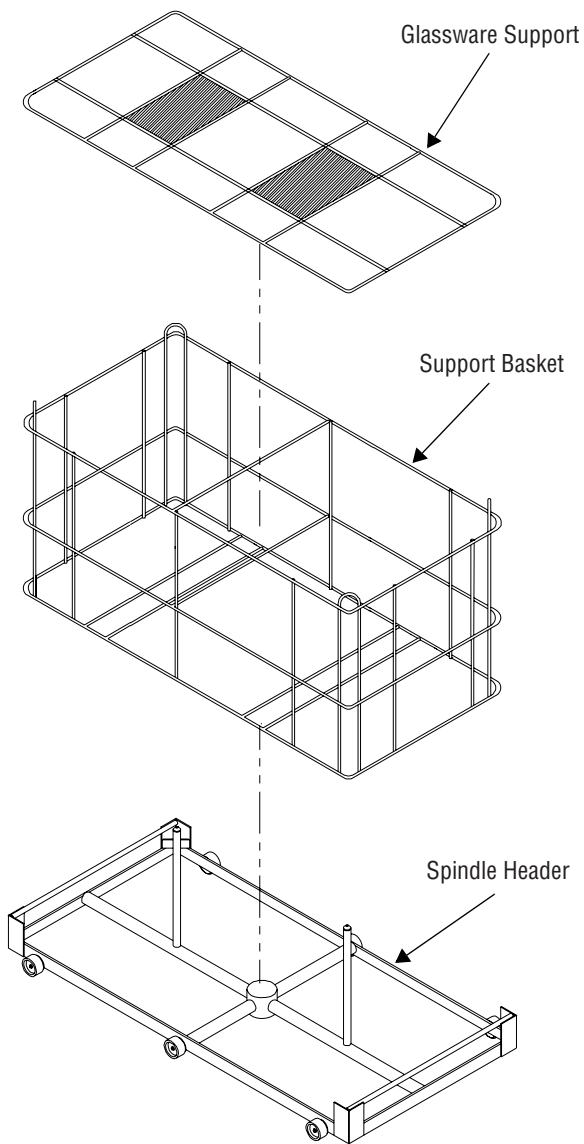

Figure 4-3. Glassware Support
- **Glassware support**, supports baskets and spindle headers (see Figure 4-3):